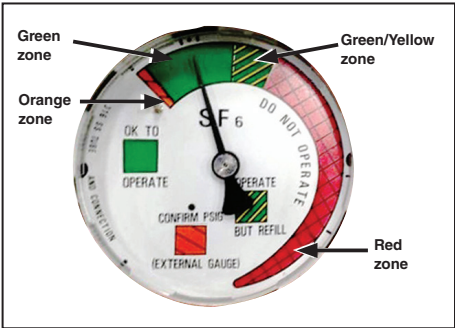

Figure 2. Internal gas-pressure gauge. SF₆ gauge is shown. Gauges for 15-kV, 12-kA sym. models and Vista Green switchgear models are similar.
STEP 1. Make sure the gas-pressure gauge is in the Green zone (or the Green-and-Yellow striped zone) by lifting the viewing window cover over Way 1. See Figure 2.